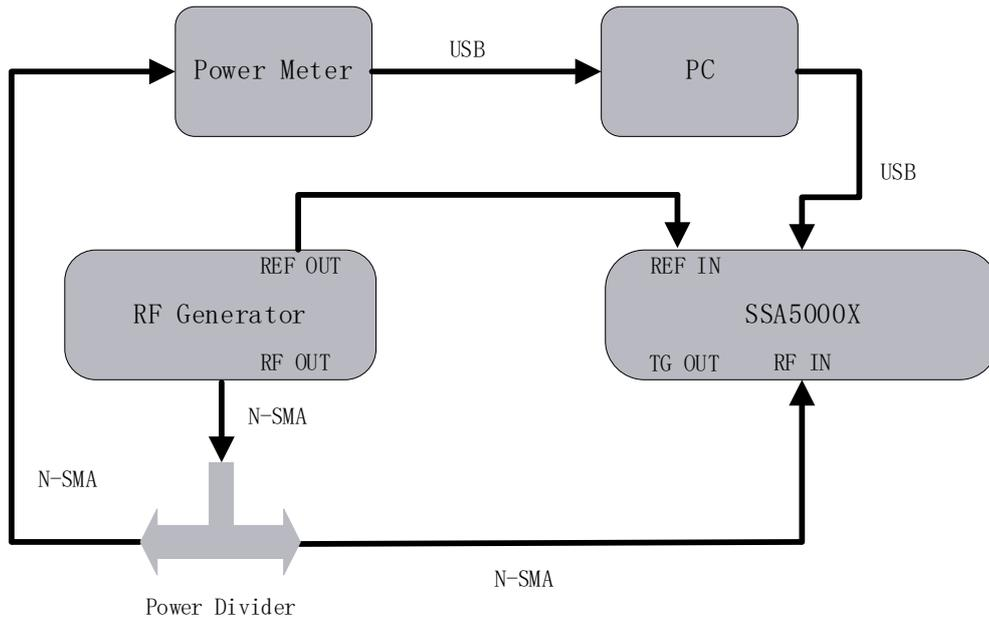

Figure 10 Diagram of Absolute Amplitude Accuracy Test System
1. Connect the spectrum analyzer, signal generator and power meter as in Figure 10